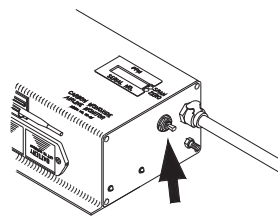

Figure 3
3. Hold the “on/off/test” switch in the TEST position and wait for the following (Figure 3):